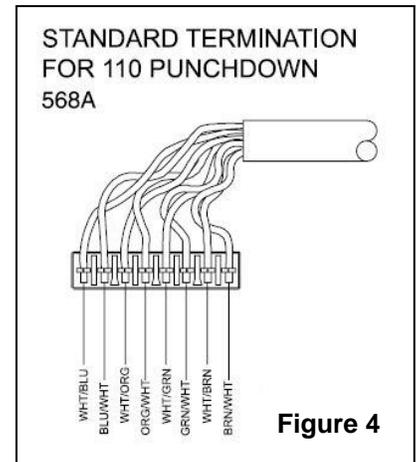

Figure 4
D. Incoming Telecom Service Cable Installation (see *Figure 4*):
- 2) Strip off approximately 4 inches of the outer jacket and position the pairs over the color coded slots on the 110 strip (see *Figure 4*).